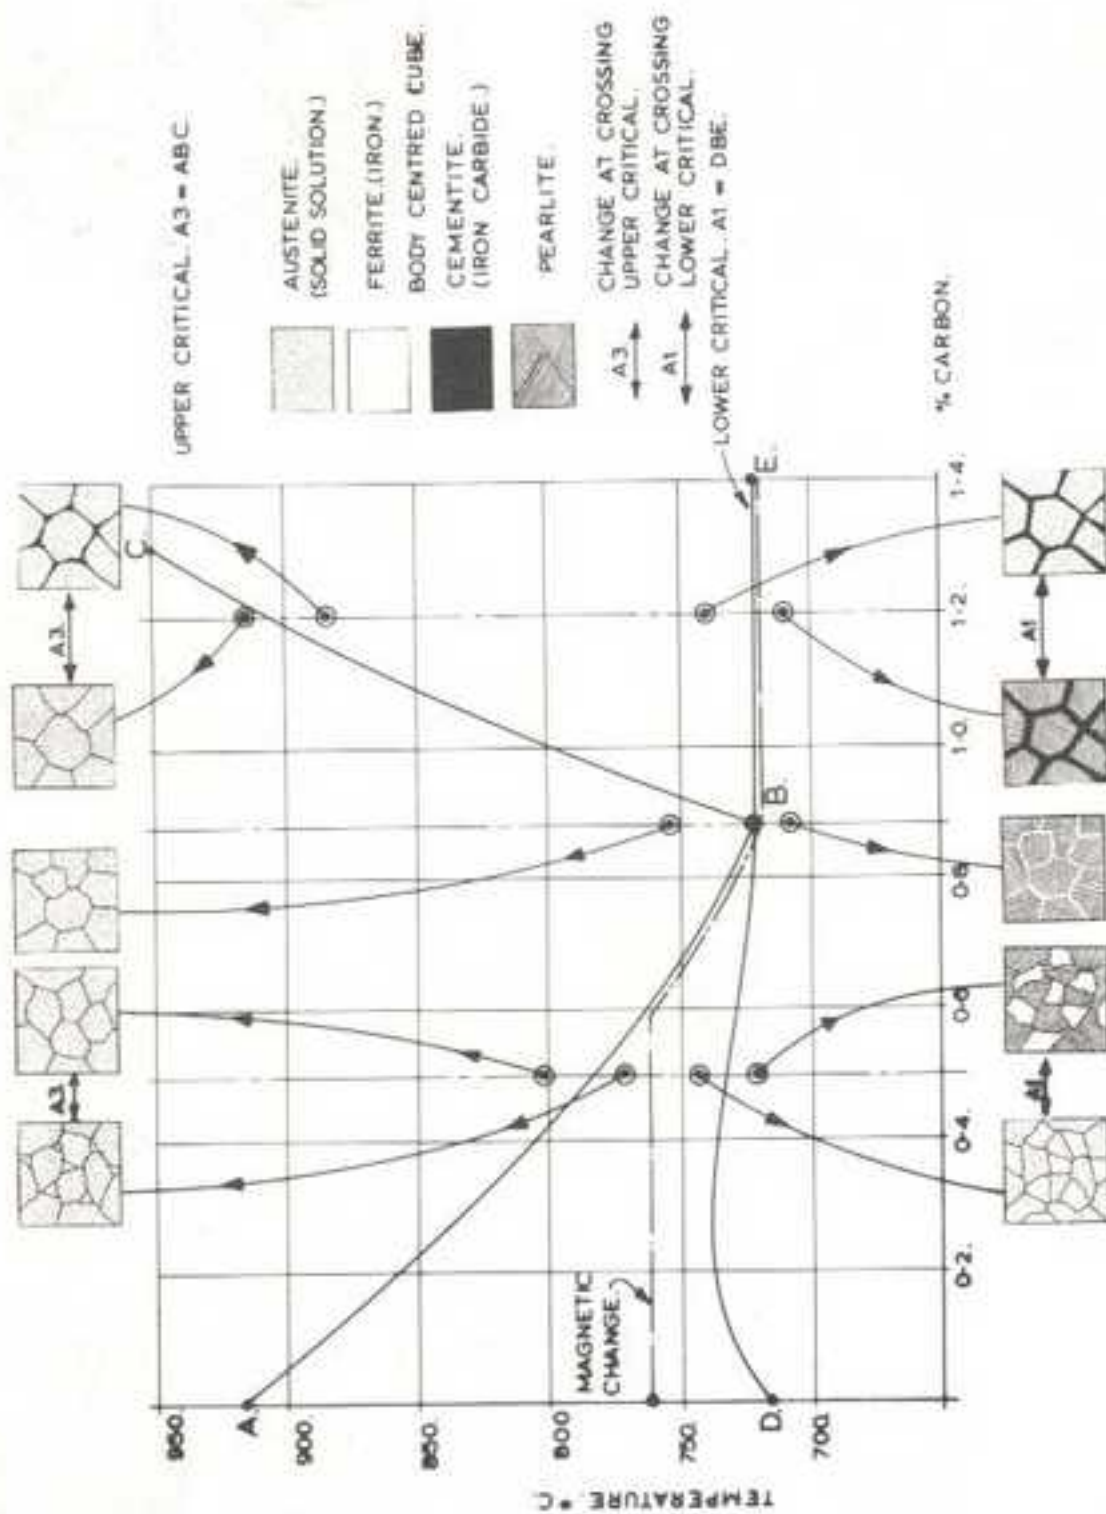

Fig. 13 A simplified version of the "Iron-Carbon Equilibrium Diagram." (After "Quenching Fluids and the Heat Treatment of Steel" Courtesy BP Ltd.)
Diagram", which shows the effects of both carbon and temperature. I have made a simplified version of this in Fig 13; this deals only with "steel" (the full diagram includes cast iron as well) and I have not bothered with the temperatures up in the melting range. Those sufficiently interested will find the complete diagram in most books on the Metallurgy of Steel, but there is a very clear one in Encyclopedia Britannica, in the section headed "Iron and Steel". This can be looked at in most public libraries.
alloying elements. The diagram (Fig. 13 on page 18.) is drawn for "plain" carbon steel, but each alloy will have a different characteristic equilibrium diagram, some very complex indeed.
Almost all carbon tool steels these days contain about 0.35% of Manganese, its main purpose being to counteract the effects of the impurity Sulphur. At this level the effect on fig. 13 and hence on the heat treatment is negligible. When present in higher amounts — 1% or more — the steel needs special treatment. A few tool-steels ("Silver" Steel is one — it contains no silver, by the way; the name refers to its appearance!) include about 0.5% of Chromium, partly to help in refining the grain size but also to improve "through hardening". At this level there is some slight effect on the shape of the diagrams, including the "S" curve, but no special treatment is needed. The quenching temperature is slightly different, that is all. These steels are essentially "carbon" steels with *additives* to improve performance.
As the alloy content rises, however, and, more especially, when a combination of alloying elements is used, then the equivalent diagrams to Figs. 13 and 15 become very complicated indeed. (Chromium, for example, forms a very hard carbide on its own). When faced with a steel containing more than about 0.6% of any of these elements (and they can be Nickel, Chromium, Cobalt, Vanadium, Tungsten, Molybdenum, Titanium and others) the answer to the heat treatment problem is, for the model engineer, "DON'T"! A nice piece of 3% nickel 0.3% carbon steel will (if you are *sure* it is EN21) make excellent connecting rod bolts, but unless you have the exact heat treatment data it is best left in the "as supplied" state. Even more so if you come across any of the higher alloyed steels —
**The Right Temperature.** At first sight it might be assumed that we need to take the metal up to above the upper critical temperature – the line ABC of Fig 13, – but this is not the case. First (for high carbon tool-steels, that is) we do need some "Free Cementite" when we quench, and this does not appear until the metal has fallen below the upper critical temperature. Second, experience shows that the grain size is more favourable if the metal is quenched from a lower temperature. As a general rule steels having 1% carbon content or more are quenched from below the upper critical and those below 0.9% from above it. This is a "general" rule – there may be special reasons for departing from it – and one consequence is that the quench temperature does not vary much over the whole range of carbon content. Note that for heat treating OTHER than for pure hardening this may not apply – see Ch.VII.